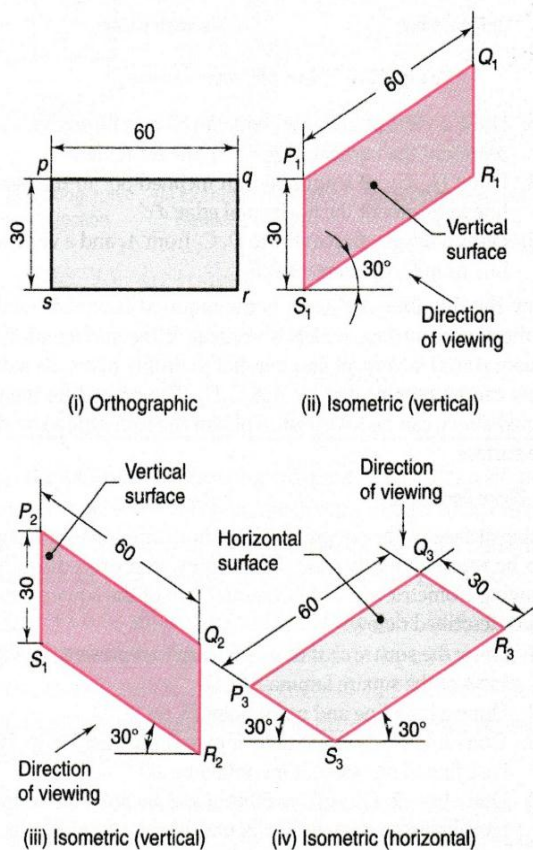

Fig. 13.9 Views of a rectangular lamina
**Solution** Refer Fig. 13.9
The procedure described in the Prob. 13.1 can be followed to obtain the results shown in Fig. 13.9.